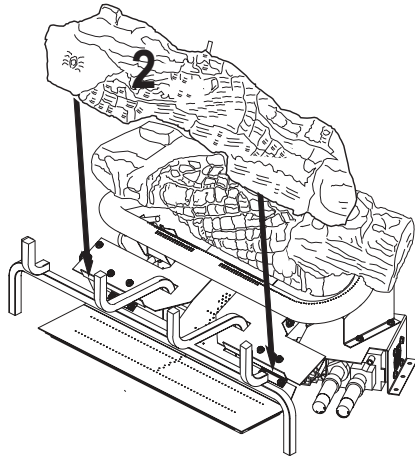

Figure 23 - Installing Log # 2
2. Place the middle log (#2) in front of the U-burner and against the edges of the plate as shown in Figure 23.